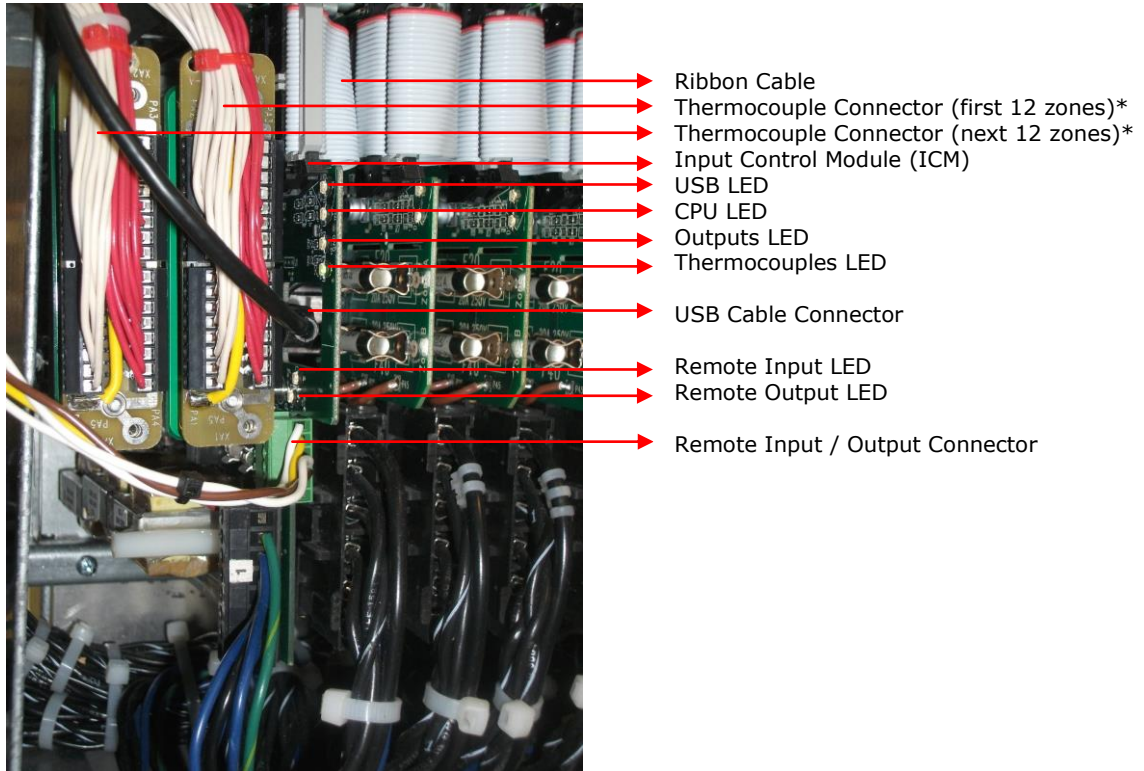

Figure 32c ICM Board LED Locations (left side block)*
The HPS-C-PRO⁺ has an Input Control Module (ICM) board that is located on each rack of the housing near the rear of the housing as shown in Figure 32c. This board is responsible for communication between the touchscreen, the thermocouple cards (attached to the ICM) and the output cards on that rack. There are four LEDs mounted vertically on the ICM located just below the ribbon cable that can be very useful in diagnosing any communication problem that arises. Figure 32b indicates the LED light status for each of the four LEDs with Notes listed for each possible condition.
Just below the four ICM LEDs are two more LEDs that indicate the status of remote inputs and outputs if remote inputs and outputs have been ordered. See Figure 32c. The LEDs are located between the USB cable connector and the green Remote Input / Output connector below the Input Control Modules LEDs. The first remote input and output are found on the first ICM board. If there is another pair of I/O, it will be located on the ICM on the next housing below.
* Figure 32c shows the layout for the ICM board for those blocks that have housing doors that open to the left side of the controller. For blocks with housing doors that open to the right side of the controller, the second thermocouple connector on the board will be in a different location. The second thermocouple board will be mounted on the forward side of the ICM board and forward in relationship to the first thermocouple board.